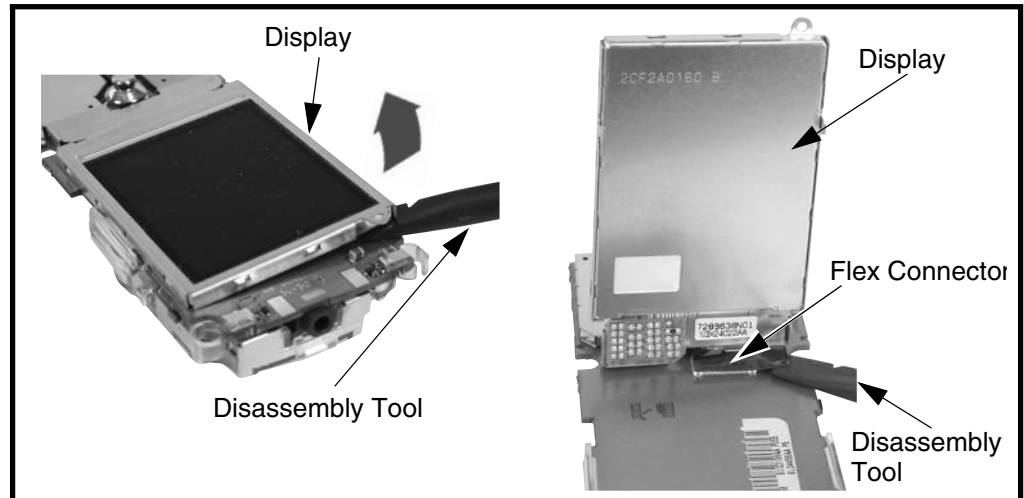

Figure 14. Removing and Replacing the Display
2. Using the disassembly tool, gently pry up the display and lift it up from the transceiver PC board as shown in Figure 14.